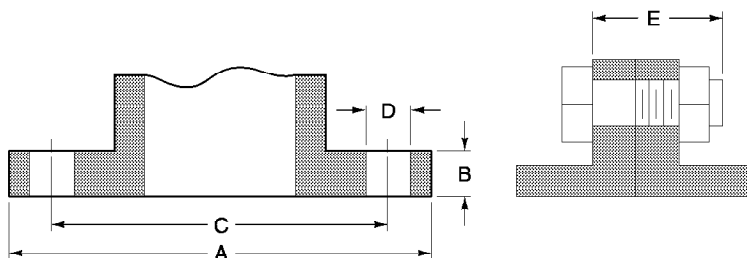

Figure-5 Flange Dimensions.
**Table-7 Flange Detail for American Standard 125 lb. Cast Iron Pipe Flanges (Figure-5).**